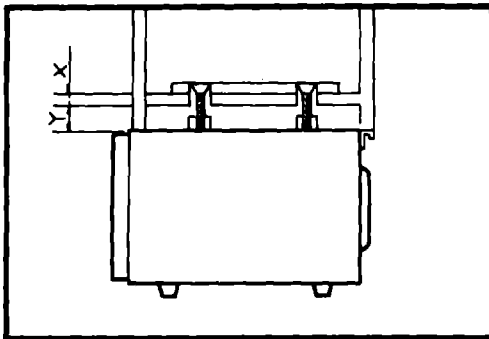

Fig. 15
2. Hold each screws against the cabinet front rail. The mounting screws, which are included in this package, are provided for you so that you can mount your flush with the front of your cabinet. (Fig. 15)